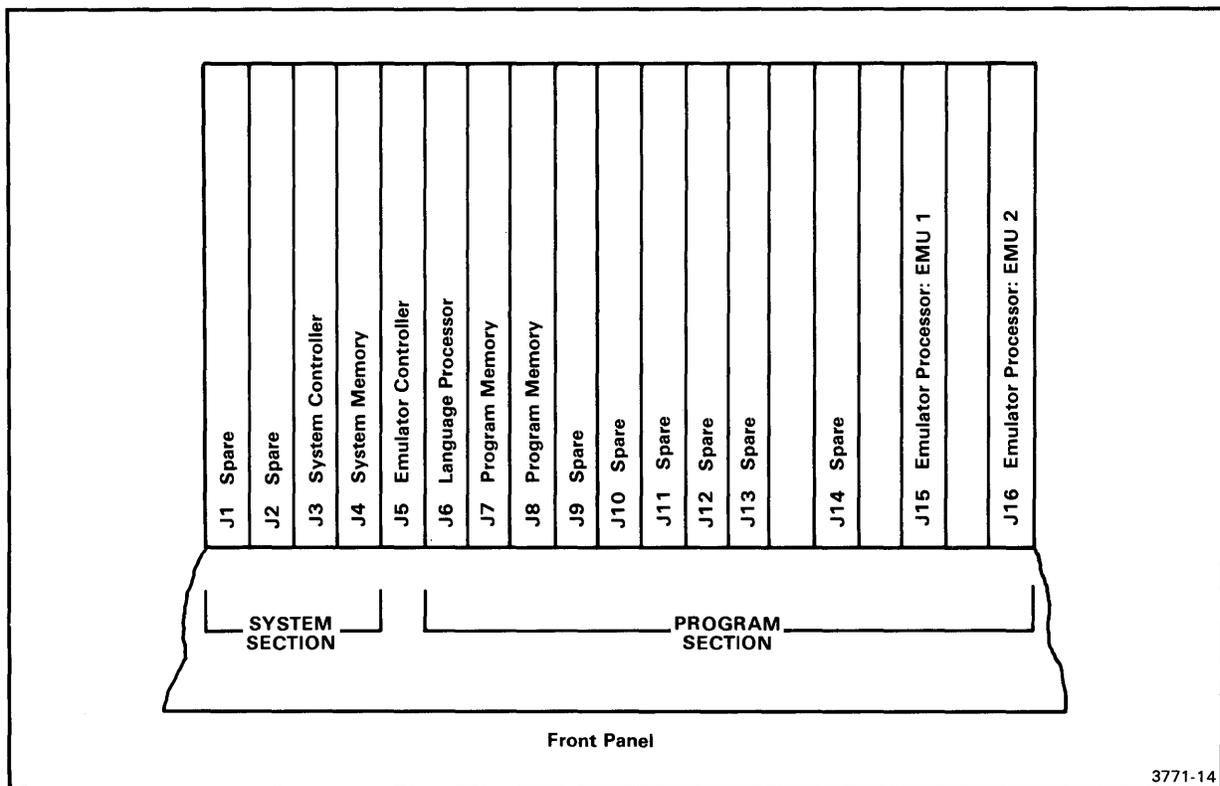

Fig. 3-4. Recommended module arrangement.
10. Guide EMU 1 and EMU 2 down the vertical channels to J15 and J16, respectively, on the Main Interconnect board (refer to Fig. 3-4).